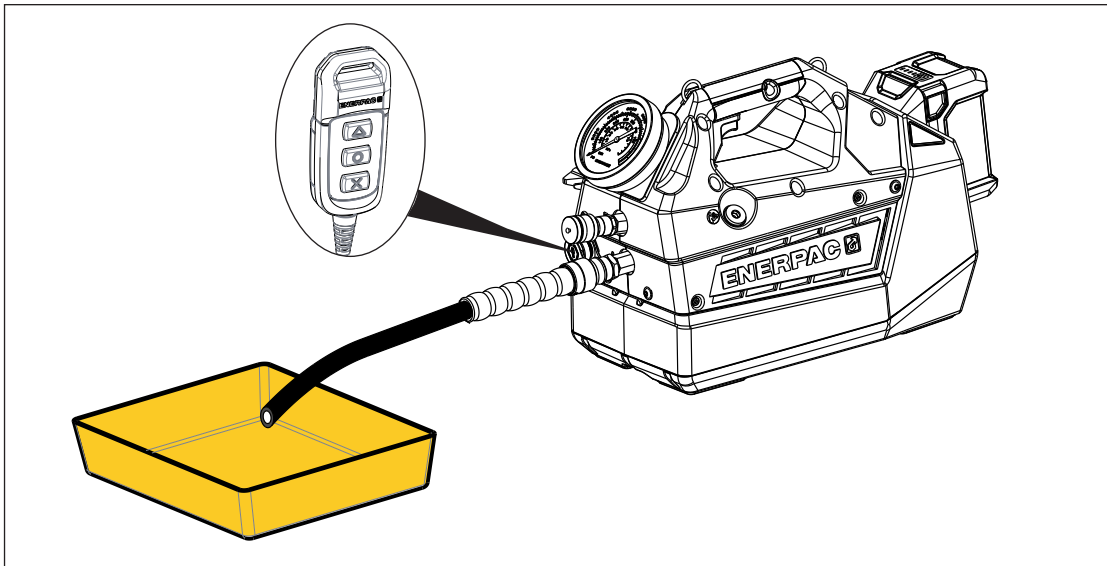

Figure 14: Draining the Hydraulic Reservoir
2. Place the pump on a level work surface. Be sure the pump power switch is in the OFF (O) position.
3. Attach an open-ended hose to the pump "A" port. Place the open end of the hose in a suitable pan or container that is large enough to collect all the used oil. See Figure 14.